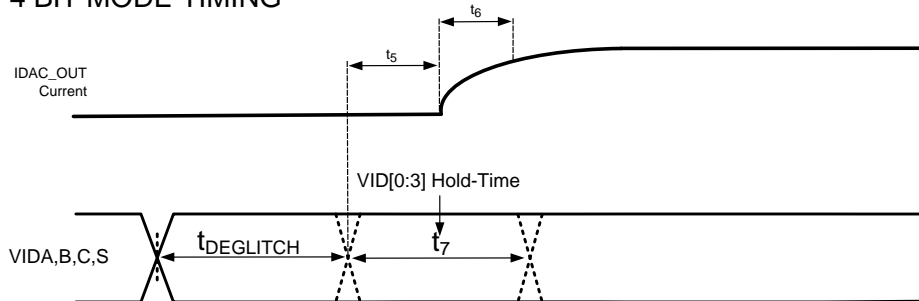

图 1. Timing Diagram for LM10011 Communications
(5) For VID timing, see 图 1.
Four pins are used to communicate with the LM10011. In 6-bit mode (MODE = 0), VIDA, VIDB, and VIDC are data lines, while VIDS is a latching strobe that programs in the LM10011 data. As shown in the 6-bit mode timing diagram of 图 1, the falling edge of VIDS latches in the data from VIDA, VIDB, and VIDC as the lower three LSB of the IDAC\_OUT value, [2:0]. After a minimum hold time ( $t_2$ ), the rising edge of VIDS latches in the data from VIDA, VIDB, and VIDC as the upper three LSB of the IDAC\_OUT value, [5:3]. Internally, a delay ( $t_3, t_1$ ) on VIDS allows for the setting of all VIDA, VIDB, and VIDC lines to change simultaneously as VIDS rises or falls.
The LM10011 includes a 4-bit mode to facilitate parallel VID communication. In 4-bit mode (MODE = 1), VIDC, VIDB, VIDA, and VIDS are all parallel data lines. As shown in the 4-bit mode timing diagram in 图 1, a changing edge of any of the VID communication lines will change the IDAC\_OUT current to the corresponding new 4-bit value found on the data lines. There is a 3- $\mu$ s deglitch filter to eliminate spurious noise events. The data must overcome the deglitch time and the minimum hold time ( $t_7$ ) or else the IDAC\_OUT pin current may not reflect the value indicated at the VID data inputs. During the hold time, no other data line can be transitioned.